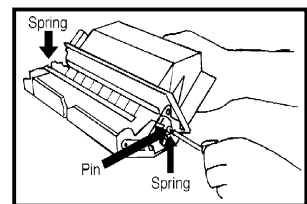

Figure 3
- Separate the toner hopper/magnetic roller assembly from the OPC drum/toner waste bin assembly (two springs, one plastic pin (Fig. 3)).